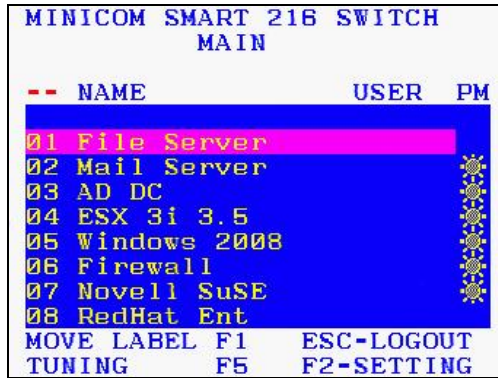

Figure 10 OSD Main window
1. From the local keyboard, press left **Shift** twice. The OSD Main window appears. See Figure 10.